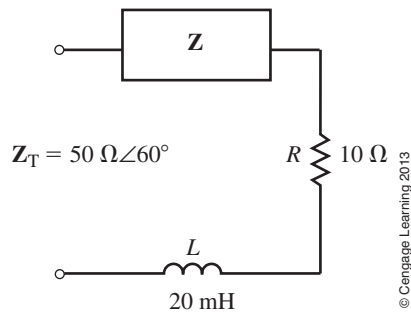

FIGURE 18-92
19. Given that the network of Figure 18-92 is to operate at a frequency of 1 kHz, what series components R and L (in henries) or C (in farads) must be in the indicated block to result in a total circuit impedance of $Z_T = 50\ \Omega \angle 60^\circ$?